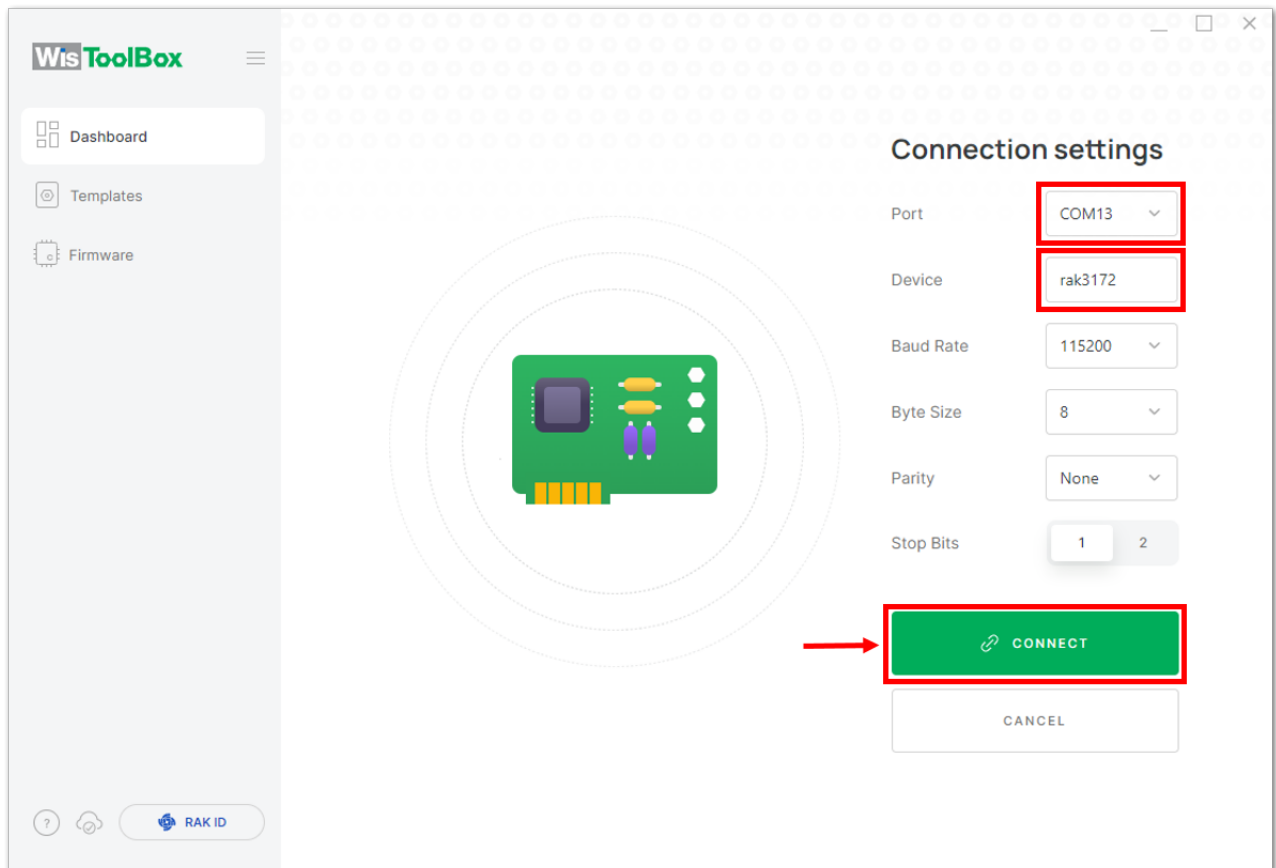

Figure 69: Setting up your device
3. Then select your target port where your **RAK3172** is connected. Once recognized, click **CONNECT** as shown in **Figure 69**.